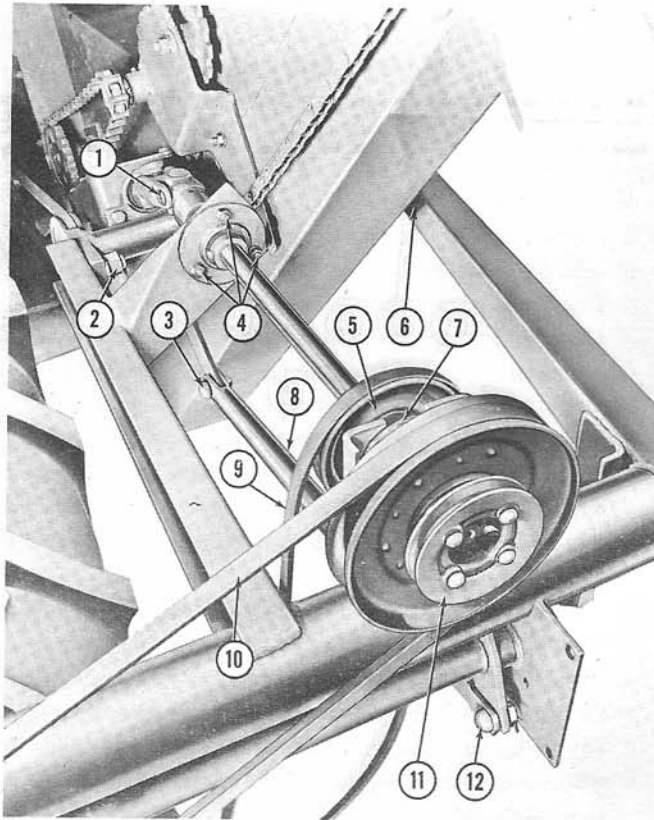
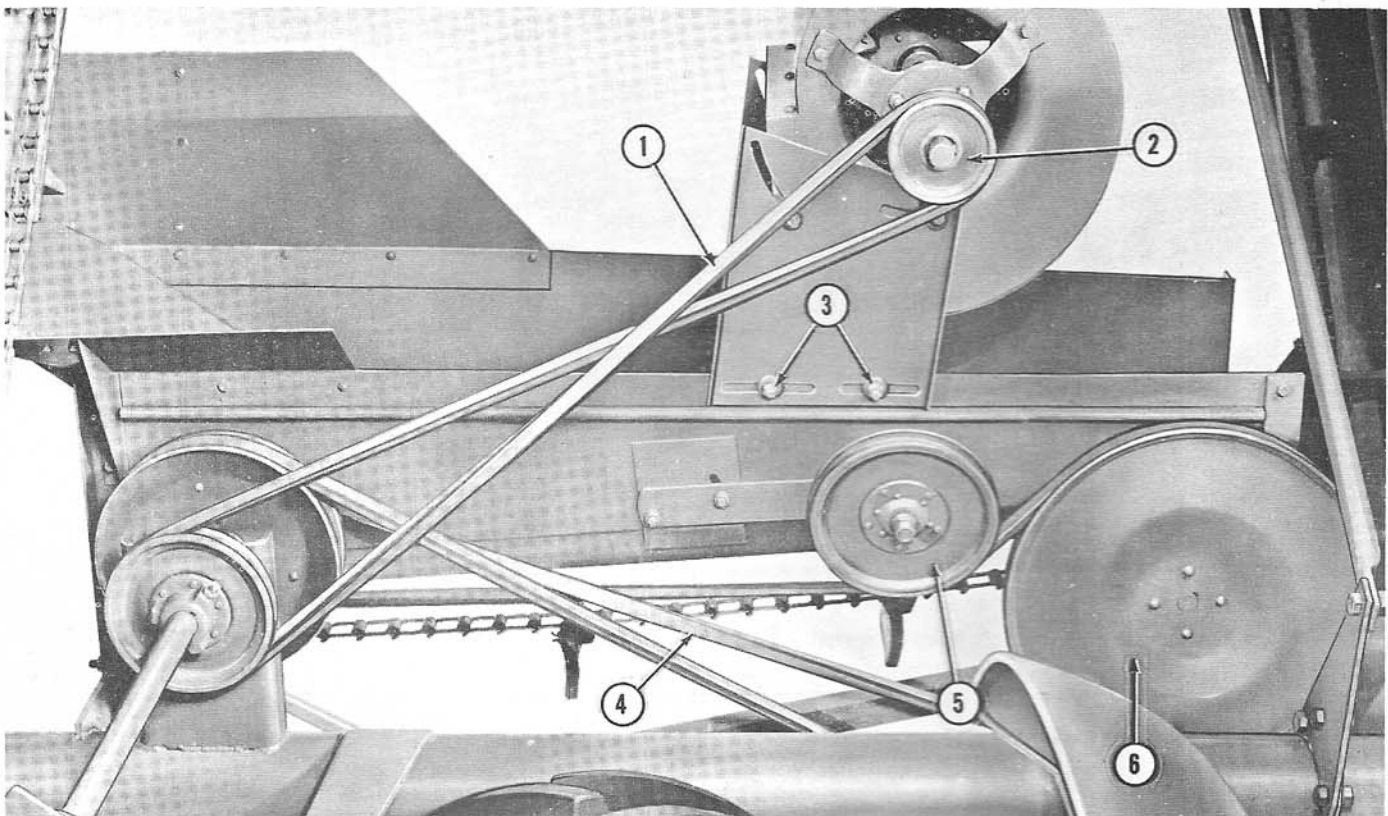

Figure 8
Figure 11
2. Attach the snap unit to the mounting arms with two bolts, flat washers, ferrules, lock washers, and nuts (2) and (6), Figure 8.
3. Attach the lift pipe (8), Figure 8, to the snap unit and lift shaft with round head pins and cotter pins as shown at (3) and (12).
4. Loosen the set screw in the fan drive sheave (5), Figure 8, and slide the sheave forward on the shaft.
5. Position the front bearing flange on the shaft and the fan drive belt (9), around the sheave (5), Figure 8. Insert the splined end of the drive shaft through the front mounting bracket and into the universal joint (1), then lower the rear bearing into the rear mounting bracket as shown.
6. Attach both sets of bearing flanges to the REAR SIDE of the mounting brackets (7), Figure 8, with three 3/8" x 1" carriage bolts, lock washers and nuts as shown at (4).
7. Slide the fan drive sheave (5), Figure 8, back to its original position on the shaft and tighten the set screw securely.
8. Install the main drive belt (10), Figure 8, around the driven sheave as shown. Adjust the draw bolt (4), Figure 6, until the proper belt tension is obtained, then tighten the main drive sheave mounting bolts securely.
5. On corn harvesters, install the conveyor drive belt (4), Figure 11, on the driven sheave (6), and under the idler (5). Twist the belt to reverse direction, then install it on the drive sheave (11), Figure 8. Adjust the idler (5), Figure 11, for proper belt tension.
6. On both corn pickers and corn harvesters, loosen the four front and rear hex nuts (3), Figure 11, twist the fan belt (1), to reverse direction, then position the belt around the sheave (2). Move the fan housing to the left to obtain proper fan belt tension, then tighten the four hex nuts (3), securely.